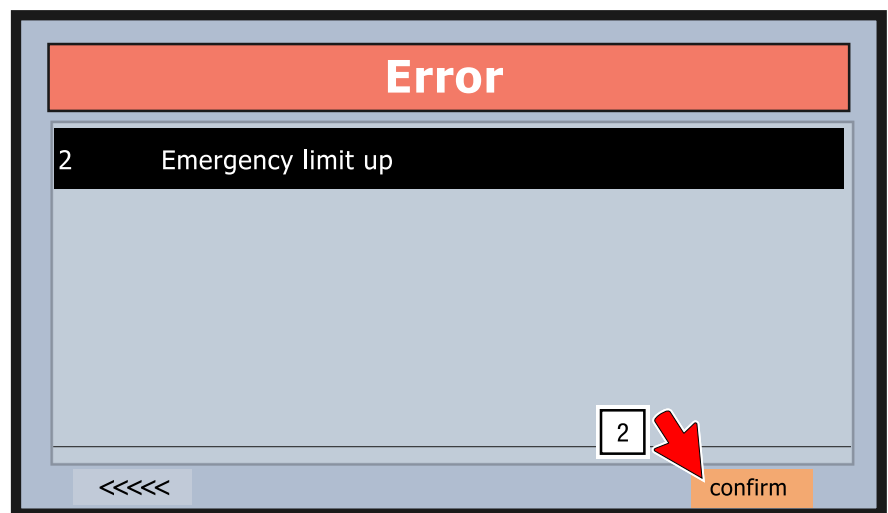

Fig. 40: Troubleshooting – Acknowledging an error message
2. Press the F2-key to open the error menu and click the “Confirm” button (see Fig. 40).